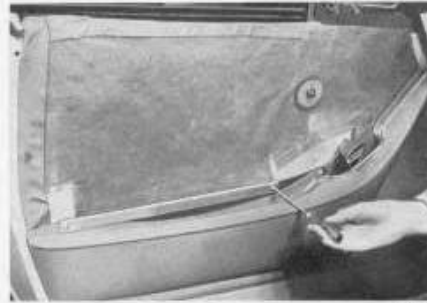

Fig. 10. Removing clamping rail for lower upholstery.
4. Then unscrew the two screws for the rail on the upper edge of the lower upholstery (Fig. 10) and the two screws in the upholstery, after which the upholstery is prised out with a screwdriver as described above. In this case the upholstery is pulled straight out, when the armrest comes out with it.